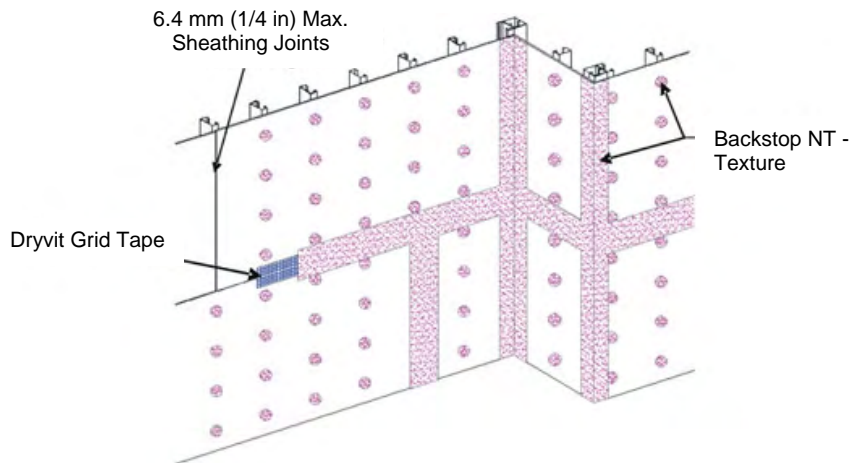

Figure 1
- Apply Dryvit Grid Tape as described in Section IV.E.1 above. Mix the Backstop NT - Texture material as described in Section I. Using a stainless steel trowel or spatula, apply a layer of Backstop NT - Texture over the Dryvit Grid Tape and spot all fastener heads – Figure 1.